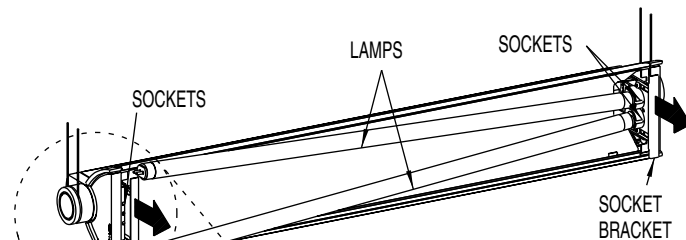

Fig. 21
3. Slide out both SOCKET BRACKETS (see Fig. 21). No tools required. Pull with hands.